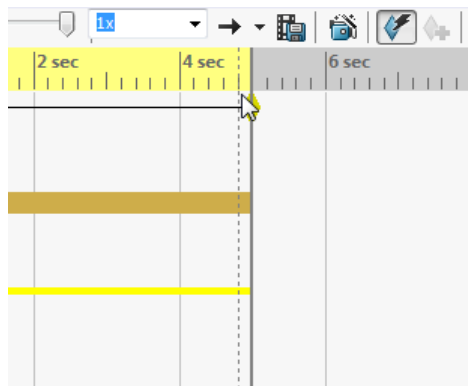

Figure 20-23 Timeline before moving the key point
2. Choose the **Stop** button from the **MotionManager** toolbar to stop the animation and then to increase the play time of animation, select the key point of first row and drag it to the desired time point, refer to Figures 20-23 and 20-24.